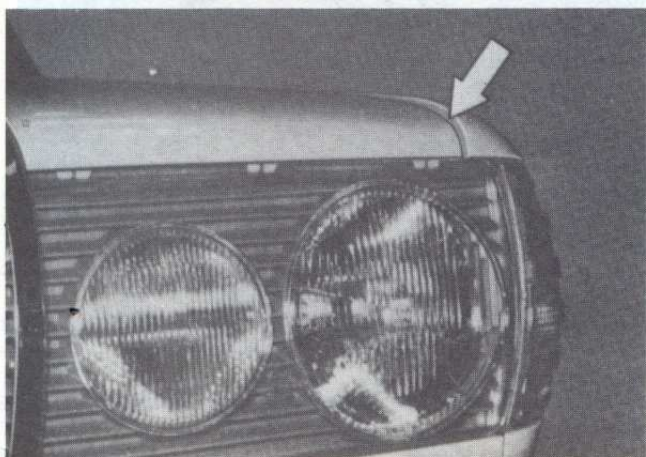

Fig. 12.2 Correct bonnet alignment (Sec 7)
- 5 Refitting is a reversal of removal, but set the hinges to their original positions before tightening the bolts. Check that the bonnet is central within its aperture and aligned correctly with the surrounding bodywork (Fig. 12.2). Note that the lower edge at the front of the bonnet should align with the upper edge of the turn signal lamp cut-outs.